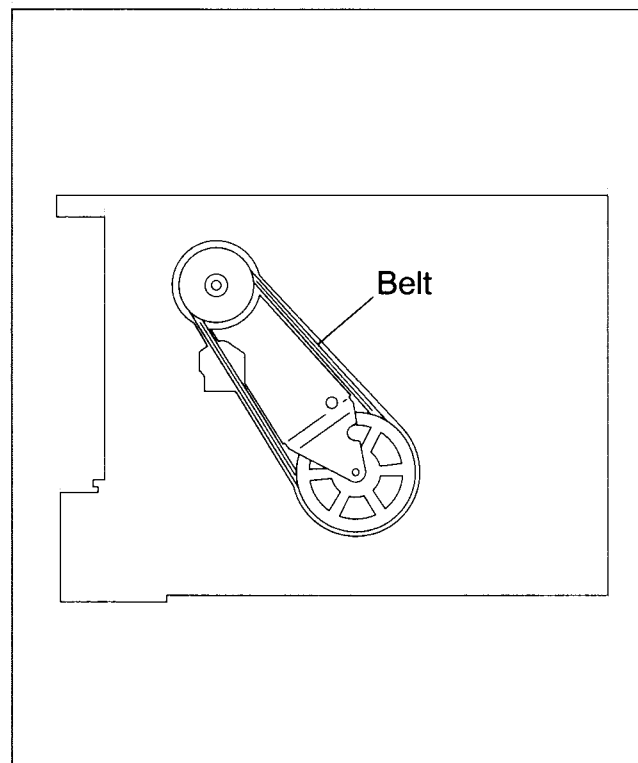

Fig.2-5-10
- (1) Take out 1 slit washer,then remove the lever assembly.
- (2) Disengage the belt( capstan motor) from bottom of mechanism assembly first as indicated in Fig.2-5-10.